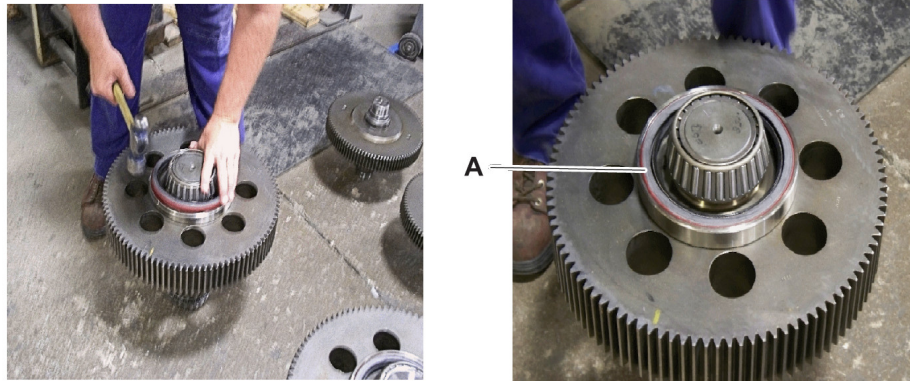

Figure 2
5. Insert the oil seal (Figure 2, item A) into the spacer. Pay close attention to proper orientation. The primary lips on the oil seals must be toward the inside the space.